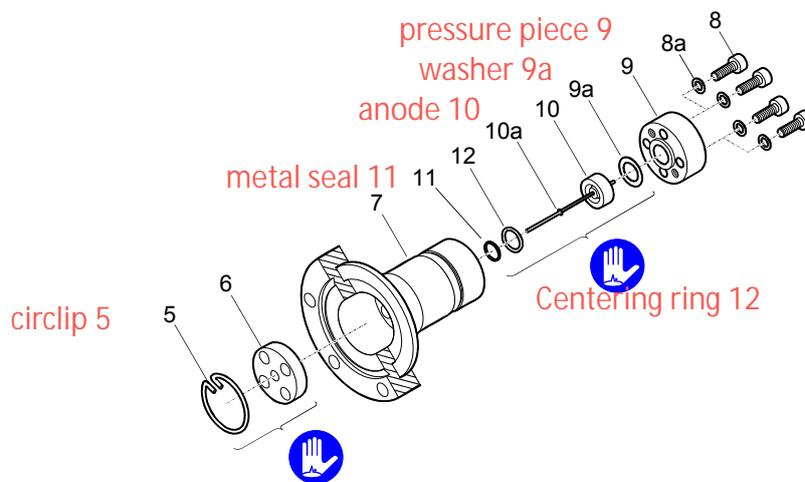

Figure 3c
- 1 Insert the new metal seal (11) with the centering ring (12) centered into the measuring chamber. The sealing surfaces, seal and ceramic part must be clean (→ Figure 3c).
- 2 Carefully insert the anode (10) incl. ignition aid (10a) into the measuring chamber.
- 3 Carefully place the washer (9a) and the pressure piece (9) on the measuring chamber and tighten them **uniformly** with the four hexagon socket screws (8) incl. the lock washers (8a) until the stop position is reached.
- 6 Slide the polarity insert (6) into the measuring chamber up to the mechanical stop.
- 7 Place the circlip (5) snugly fitting on the polarity insert.